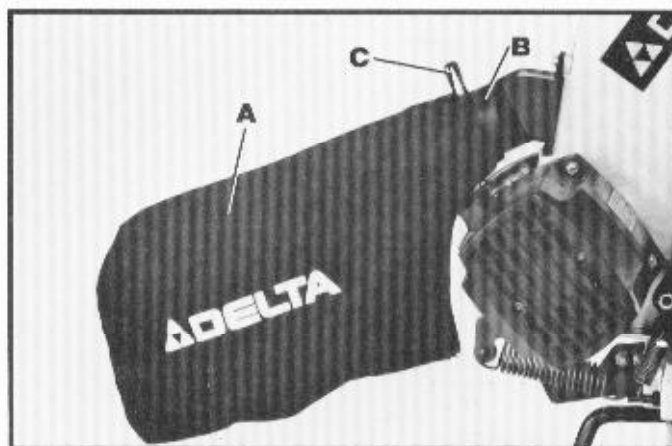

Fig. 33
Available as an accessory for your miter box is the Catalog No. 34-084 Dust Bag, shown at (A) Fig. 33. The dust bag is assembled to the spout (B) making sure the wire ring (C) is engaged with the groove in the spout.